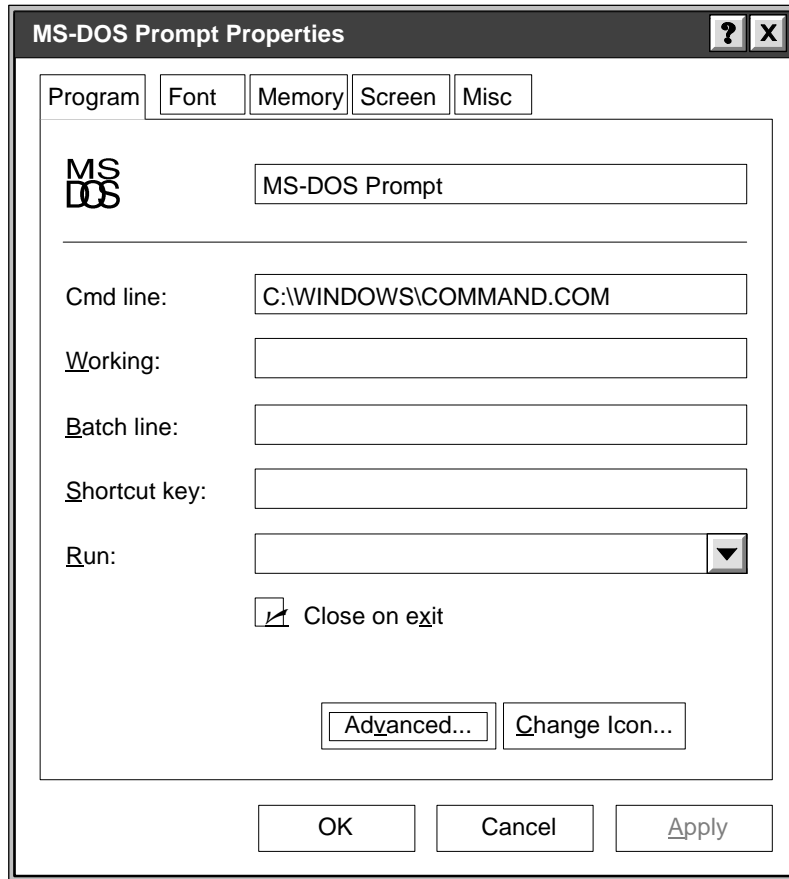

Figure D-8 MS-DOS Mode Properties Dialog Box
1. Click the right mouse button on the new icon, and select **Properties** from the menu. The system displays the MS-DOS Mode Properties dialog box (Figure D-8).